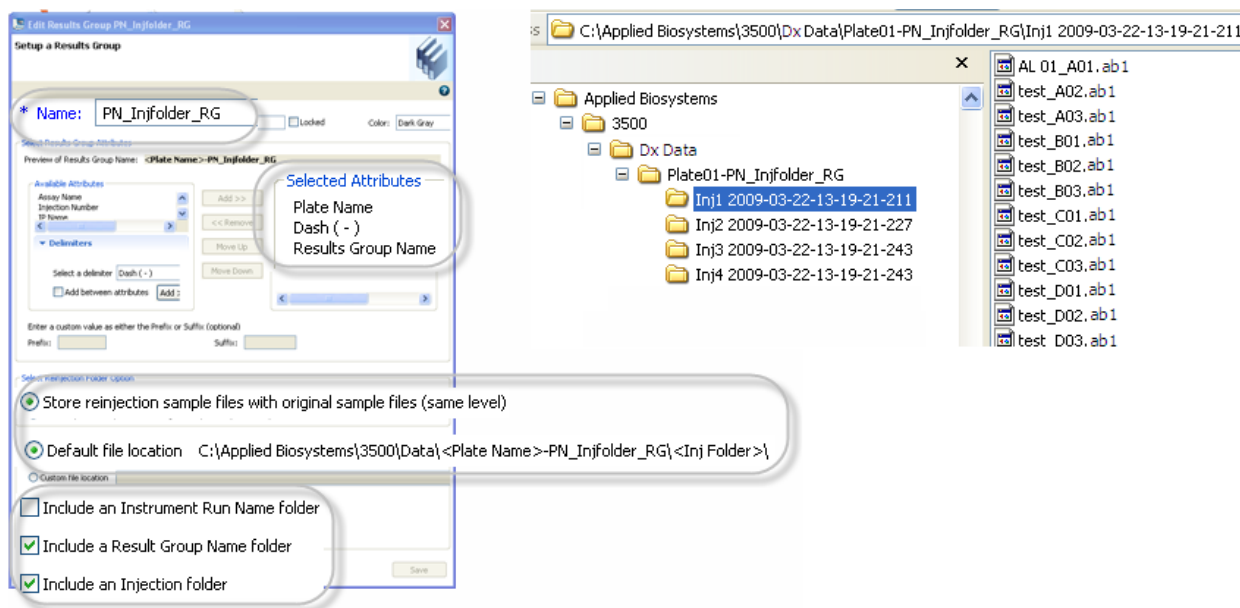

Figure 18 PN_Injfolder_RG results group
- Figure 18 shows the factory-provided PN_Injfolder_RG results group and the folders created when it is used. This results group creates a folder for each injection.